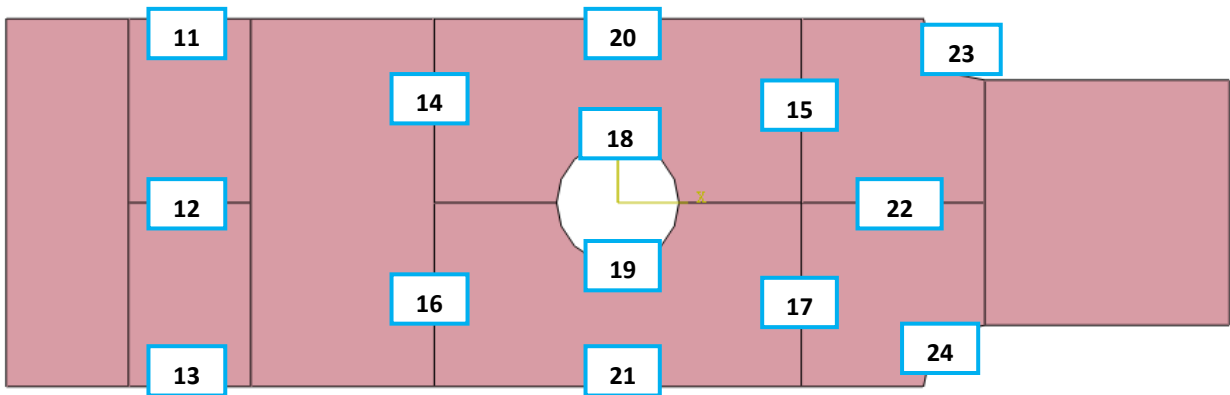

Figure 19. Selected Equal Edges
- Now that all of the biased edges have been seeded, the edges shown in Figure 19 will be seeded with equal spacing of the nodes. Under the Basic tab in the **Local Seeds** dialog box, change the **Bias** option to **None**. Only the number of elements is to be entered for this edge seeding. Seed the edges listed in Figure 19 with their respective values shown in Table 3.